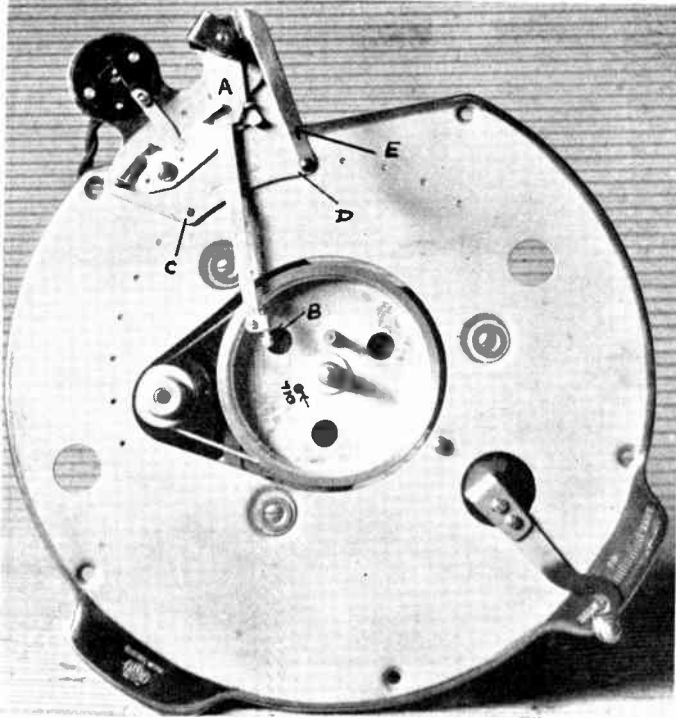
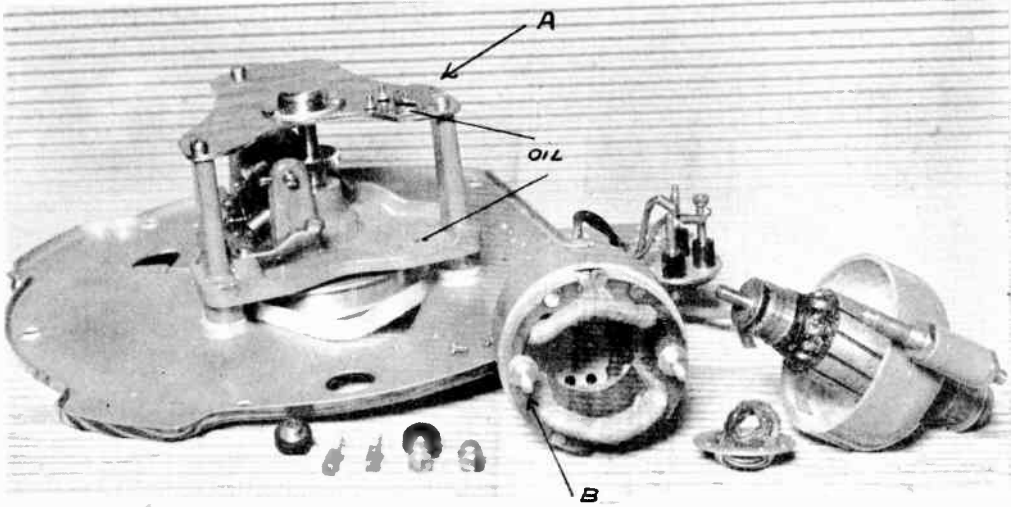

Fig. 9.—SETTING THE AUTO-STOP OF A GARRARD MOTOR TYPE E.D.
Fig. 10.—How to Take the GARRARD UNIVERSAL MOTOR TYPE E.D. APART FOR CLEANING THE COMMUTATOR, ETC.
(1) Remove the auto switch from the base by taking out screws C and D, in Fig. 9.
(2) Decide the position it is to be screwed back (any of the holes may be used). Bore a hole  $1\frac{1}{8}$  in. diameter to take switch legs.
(3) Refix auto switch to base.
(4) Adjust auto stop: move operating lever to the right and motor should start.
- (1) Remove screws A in Fig. 10.
- (2) Take out brushes.
- (3) Unscrew the two hex nuts for clamping bolt B.
- (4) Carefully draw off half the body.
- (5) If necessary clean commutator with fine glass paper taking care to remove all dust.
- (6) Repack bearing cups with grease.
- (7) After reassembly of motor, when returning to frame, take care that the belt is on the pulley, and the tension spring is in the correct position and the motor rocks freely.
- (8) Should the belt slip extra tension can be obtained by adjusting the nut on the rod B, Fig. 9, which holds the spring to the frame.
- (9) Should the belt become oily place in chalk for a few hours.